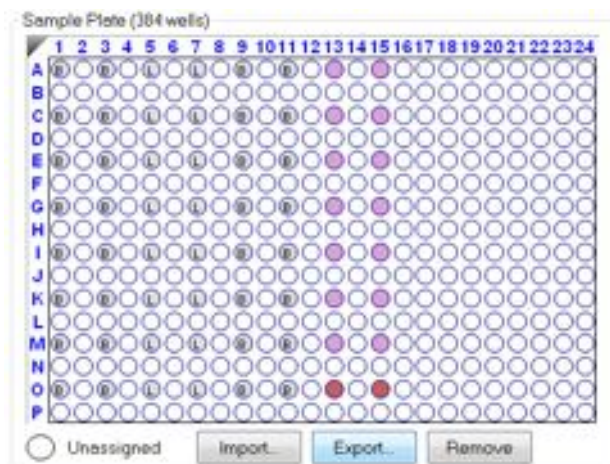

Figure 10-23: Sample Plate Map — Export Button
1. In the **Sample Plate Map**, click **Export** (see Figure 10-23).
1. In the Plate Definition window (see Figure 10-23: on page 541), click **Import**.